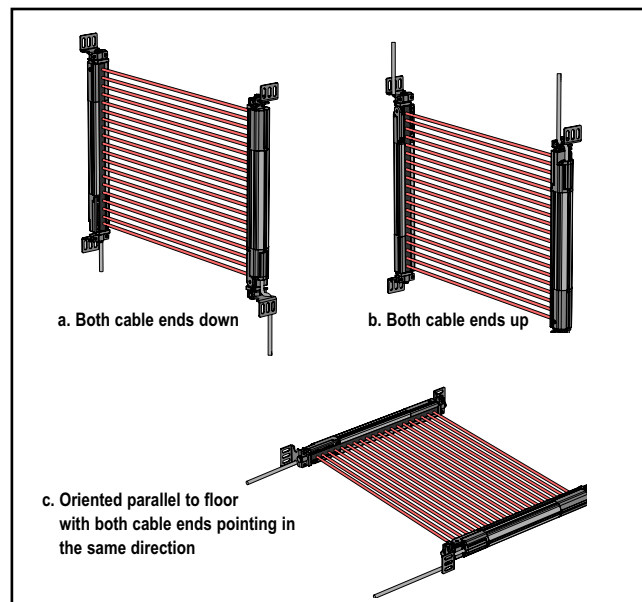
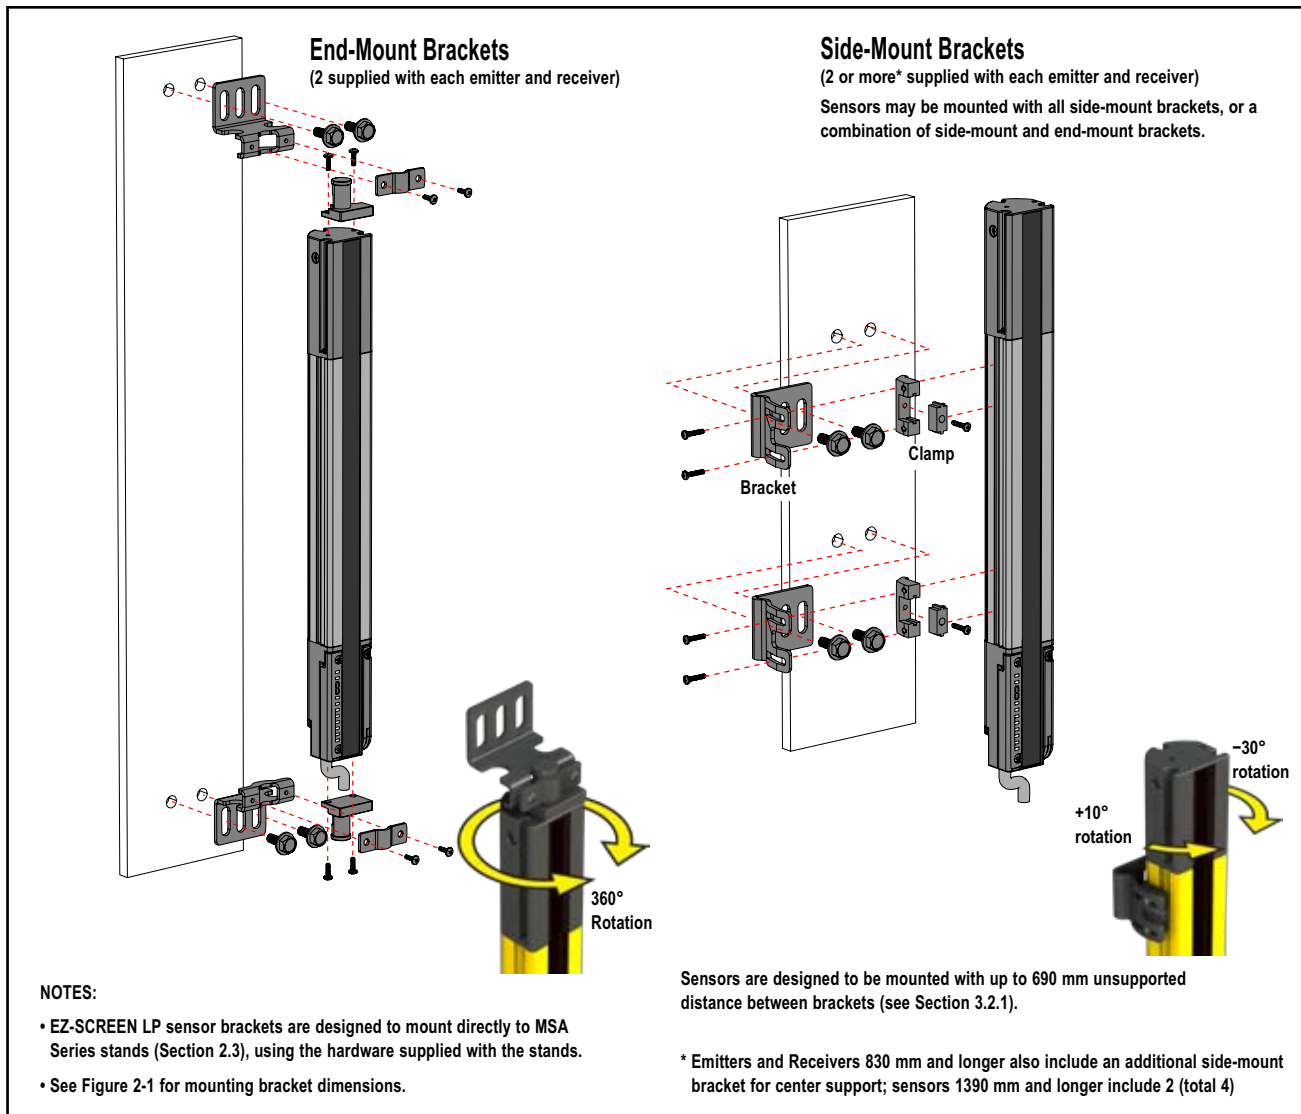

Figure 3-5. Examples of correct emitter / receiver orientation
Figure 3-10. Emitter and receiver mounting hardware (see Appendix A for more information)
Each sensor is shipped with two end-cap brackets and at least two side-mount brackets. The supplied end-cap brackets allow 360° rotation. Side-mount brackets allow 30° rotation in one direction, and 10° in the other (see Figure 3-10). Side-mount brackets may be mounted on either or both sides of the housing. If additional rotation is required, see the accessory brackets in Section 2.4.
Center-mounted side brackets must be used with longer sensors, if they are subject to shock or vibration. In such situations, the sensors are designed to be mounted with up to 690 mm unsupported distance (between brackets). Sensors 830 mm and longer are supplied with one or more additional side brackets for center-mounting (see Figure 3-10).
1. From a common point of reference (ensuring the minimum safety distance calculated in Section 3.1.1), measure to locate the emitter and receiver in the same plane, with their midpoints directly opposite each other. **Important: The connector ends of both sensors must point in the same direction** (see Figure 3-5 and warning, Section 3.1.4). Loosely mount the brackets to the desired surface, using the supplied M5 bolts and nuts, or user-supplied hardware. Brackets may face "in" or "out," as desired (see Figure 2-6).
1. From a common point of reference (ensuring the minimum safety distance calculated in Section 3.1.1), measure to locate the emitter and receiver in the same plane, with their midpoints directly opposite each other. **Important: The connector ends of both sensors must point in the same direction** (see Figure 3-5 and warning, Section 3.1.4). Mount the emitter and receiver mounting brackets to the desired surface, using the supplied M5 bolts and nuts or user-supplied hardware; see Figure 3-10.